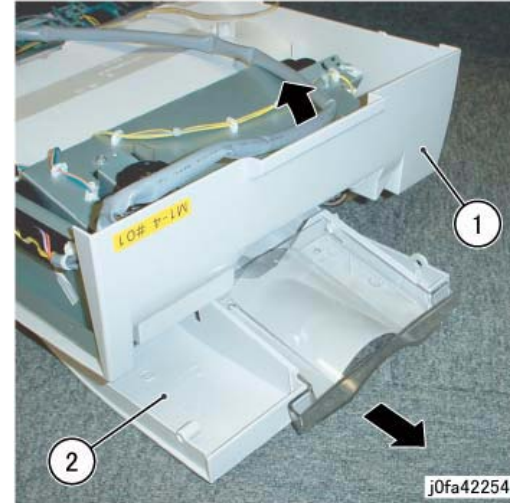

Figure 4 Disconnecting the Connector
9. Disconnect Connector (Figure 4):